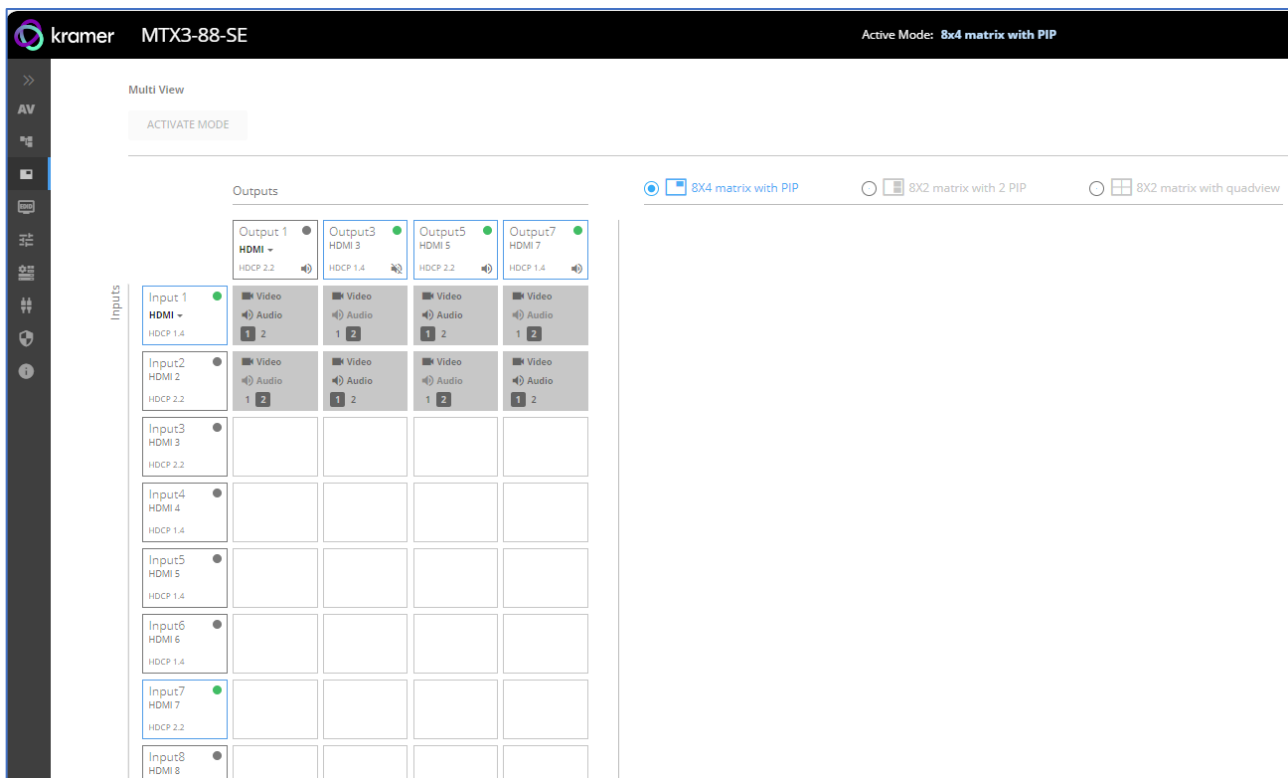

Figure 22: Multi View Operation Mode, 1 PiP Selected
- On the Multi-view operation page (Figure 22), verify:
1. Click **Multi View** on the Navigation List. The Multi-View Settings page appears (Figure 22).